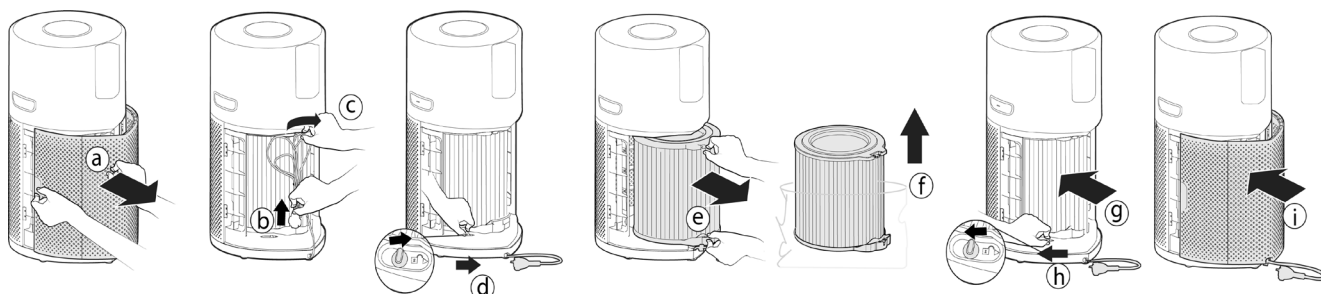

Fig. 1
2.1 INSTALLERE FILTERET [Fig. 1]